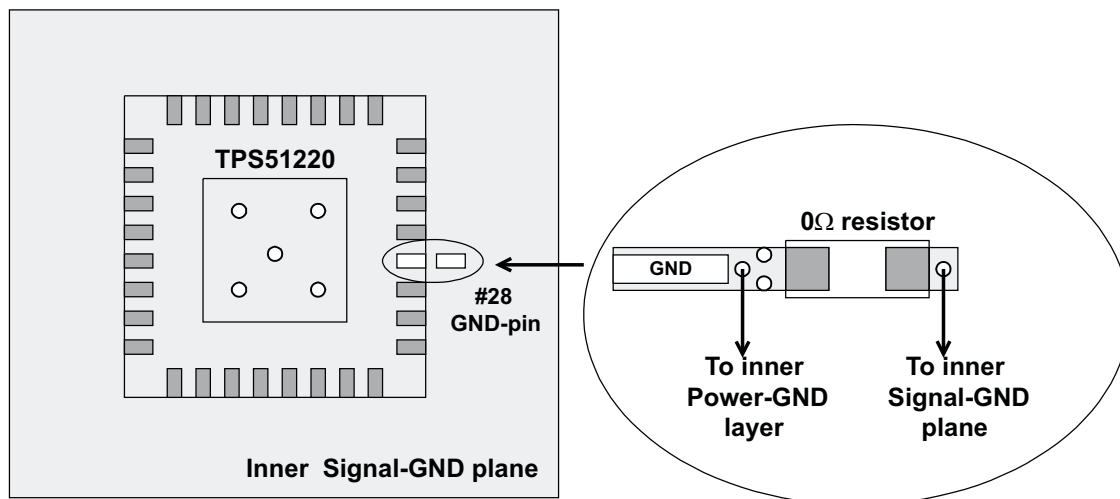

Figure 52. GND Layout Example
- Use signal GND for VREF2 and VREG3 capacitors, RF and VFB resistors, and the other sensitive analog components. Placing a signal GND plane (underneath the device, and fully covered peripheral components) on the internal layer for shielding purpose is recommended. (See Figure 52)
- Use power GND for VREG5, VIN and Vout capacitors and low-side MOSFETs. Power GND and signal GND should be connected near the device GND terminal. (See Figure 52)